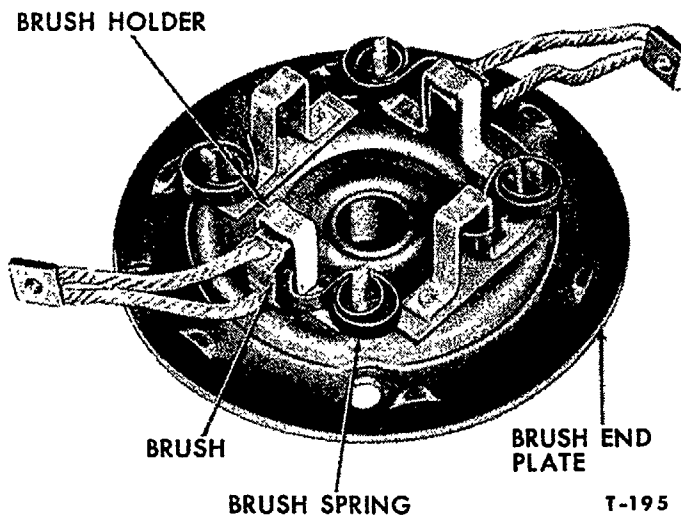

Figure 30—Installing Brushes in End Plate
1. Install the two ground brushes in the holders with the springs on the side of the brushes to hold them in place, Figure 30. Align the detent in the brush end plate with the notch in the frame, then install the field (insul. ac.) brushes in their holders in the same manner. Use a wire hook to lift the brushes while installing them in the holders.